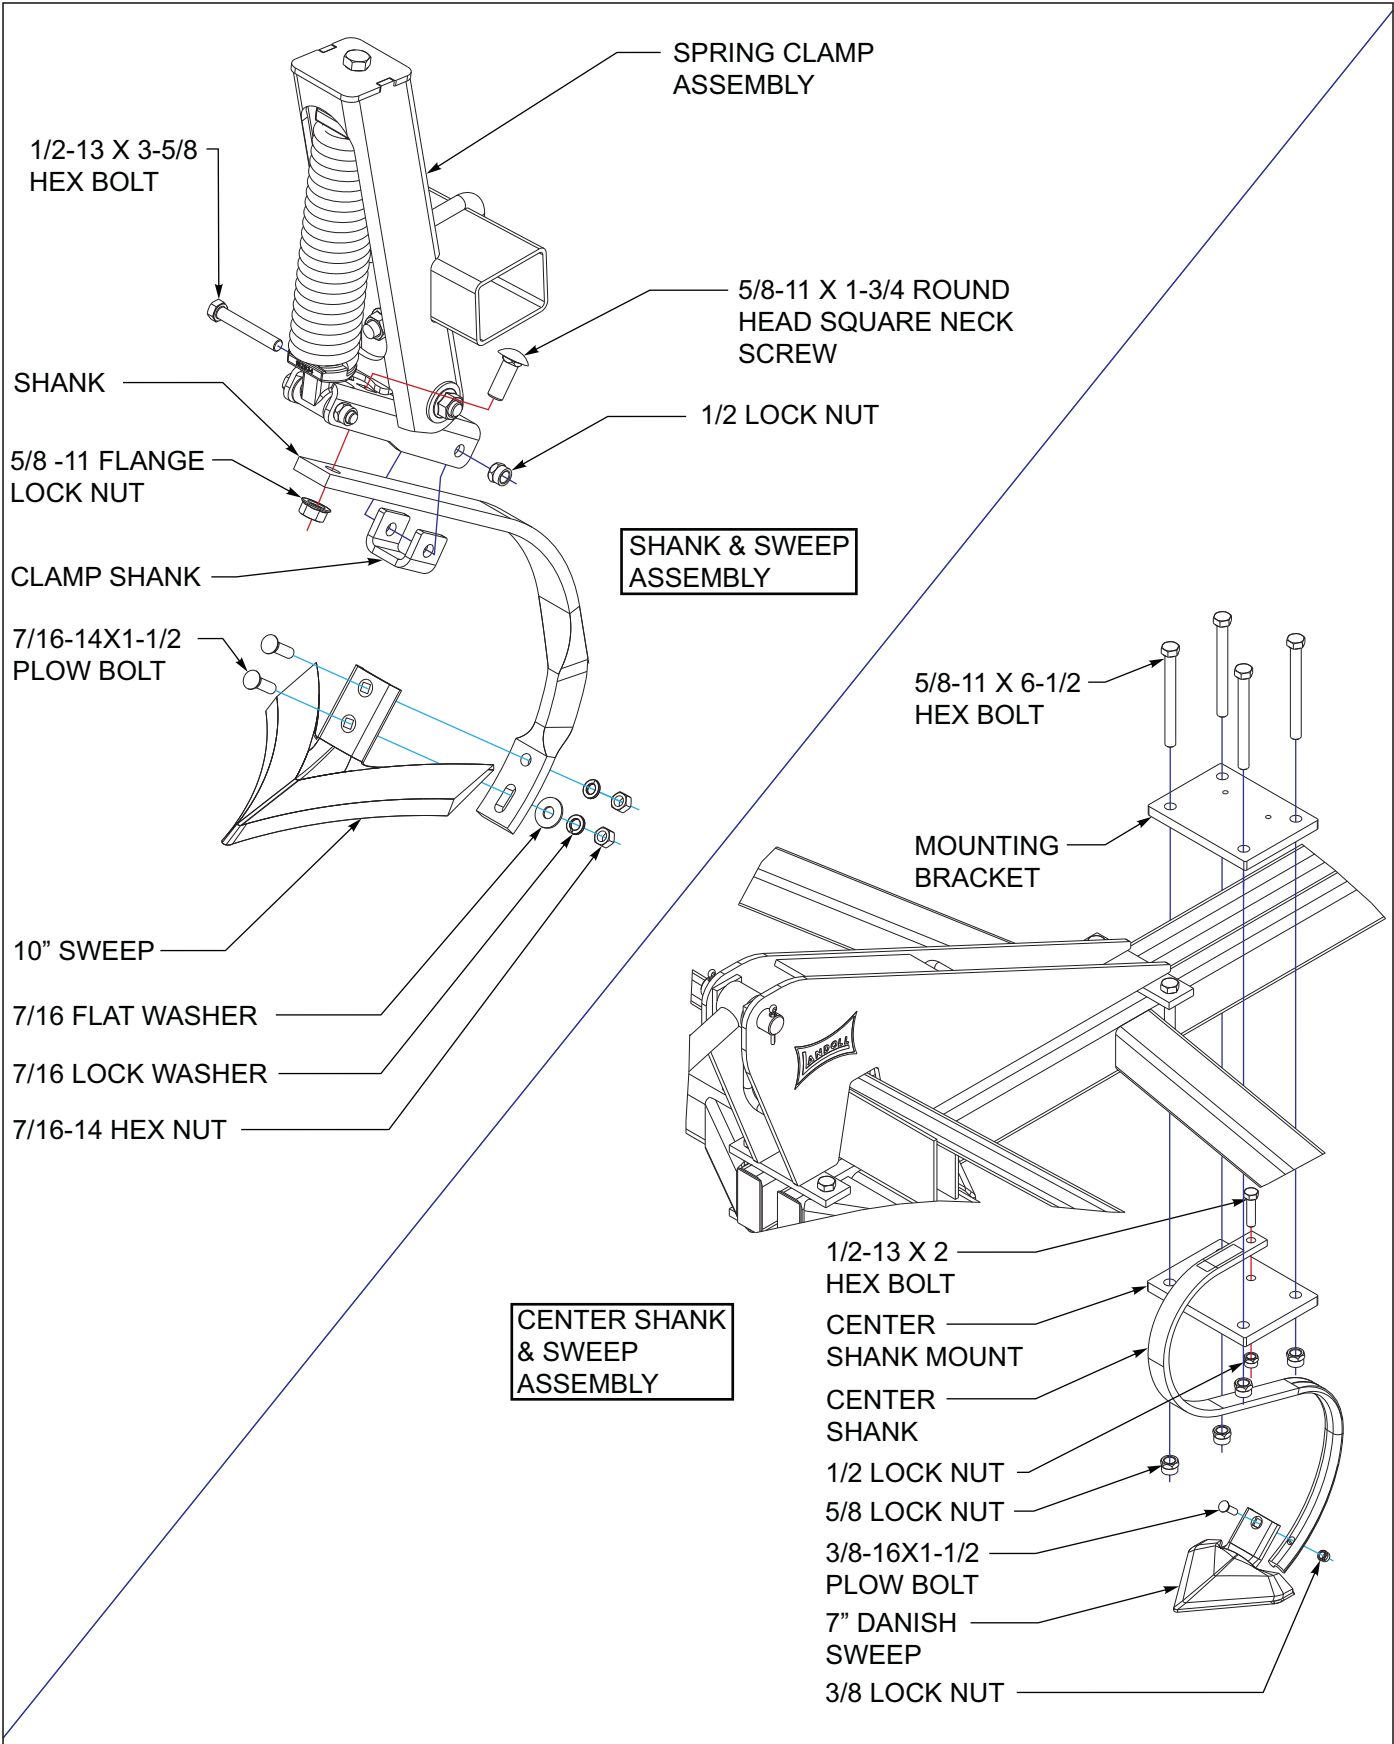

Figure 3-13: Shank & Seep Assembly
1. Attach center shank to center shank mounting plate using 1/2-13 x 2 hex head cap screw and 1/2 lock nut See Figures 3-13.
4. Install shanks in spring shank assembly. Slide shank into spring clamp assembly and fasten tight using 5/8-11 x 1-3/4 round head square neck screw and 5/8-11 flange head lock nut See Figures 3-13.